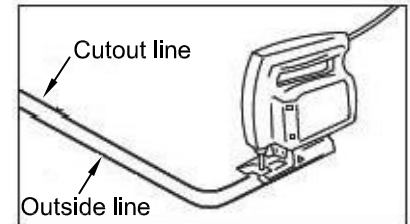

Figure 3
6. Using a jigsaw, start cutting from the drilled hole along the cutout line. Support cutout until the cut is completed (FIGURE 3)